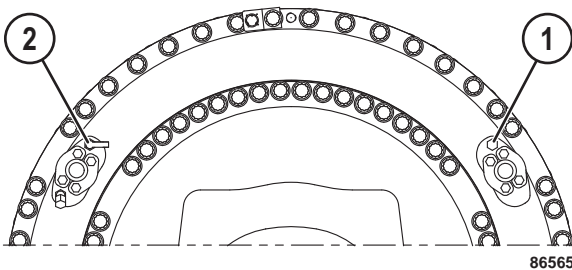

FIGURE 30-14. BRAKE WEAR INDICATOR INSTALLATION
4. Remove the plug from port (1, Figure 30-14). Quickly insert the brake wear indicator and tighten it securely. Repeat this step for each brake assembly.